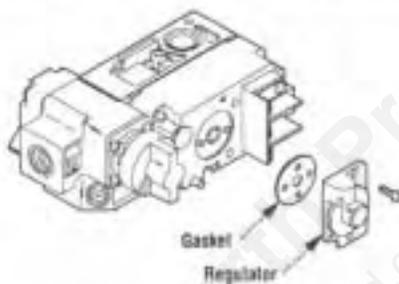

Figure 51
**Step 2.** Carefully remove the two (2) twigs on top. Then remove the two (2) main logs. Exercise care as not to break the logs.
**Step 3.** Remove the two (2) screws located at the base of the burner tray. Remove the burner tray with the burner. Use care to prevent damage to the air shutter adjustment rod. Lift the rear of the burner tray up slightly and to the right to disengage the burner tube from the manifold and orifice.
**Step 4. Millivolt Appliances** – Remove and replace the regulator assembly located on the front of the gas valve (Figure 51). Ensure that the gasket is seated properly and is not kinked.